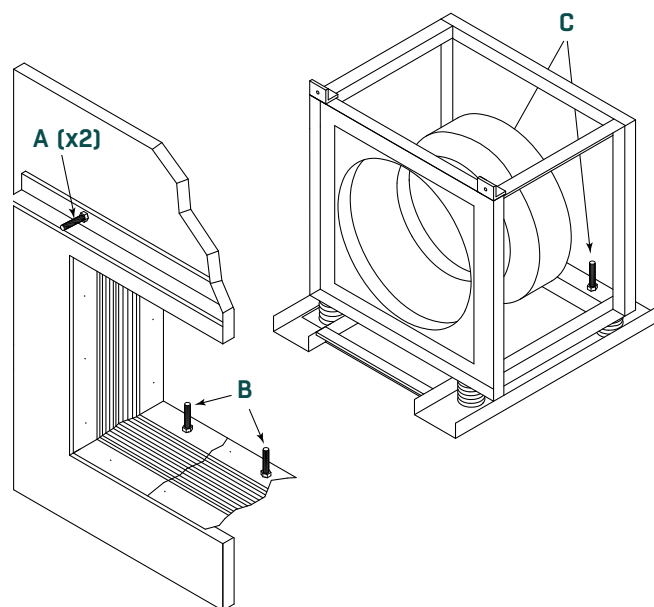

FIGURE 20. Fan with typical shipping restraints.
- 2) Each fan is restrained in six places using all-thread, (See **FIGURE 20**). Read **STEPS 3** and **4** for proper restraint removal **BEFORE** removal.